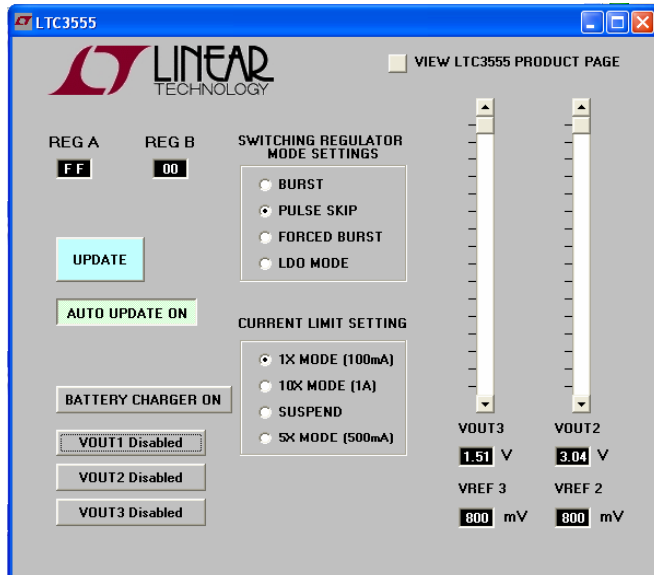

Figure 1. Graphical User Interface Demonstration Software for DC1376A-A and DC1376A-B.
2. Run the QuikEval.exe software. The QuikEval software detects the DC1376A-A or the DC1376A-B demo board and the LTC3555 Graphical User Interface (GUI), shown in Figure 1, will pop-up.